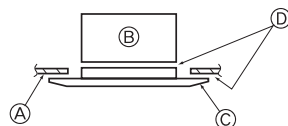

Fig. 5-7
5.3.3. Securing the grille (Fig. 5-7)